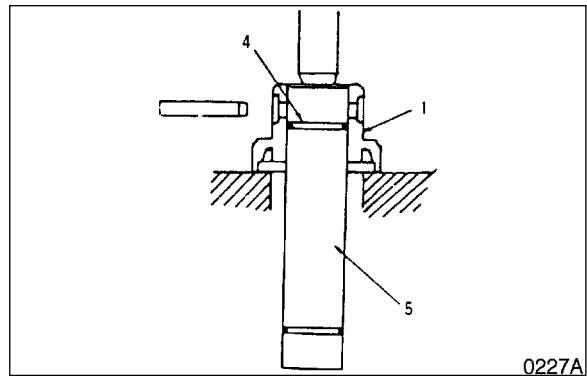

Figure 25
5. Use a press to separate the axle (5, Figure 25), O-ring (4) and bearing (1).